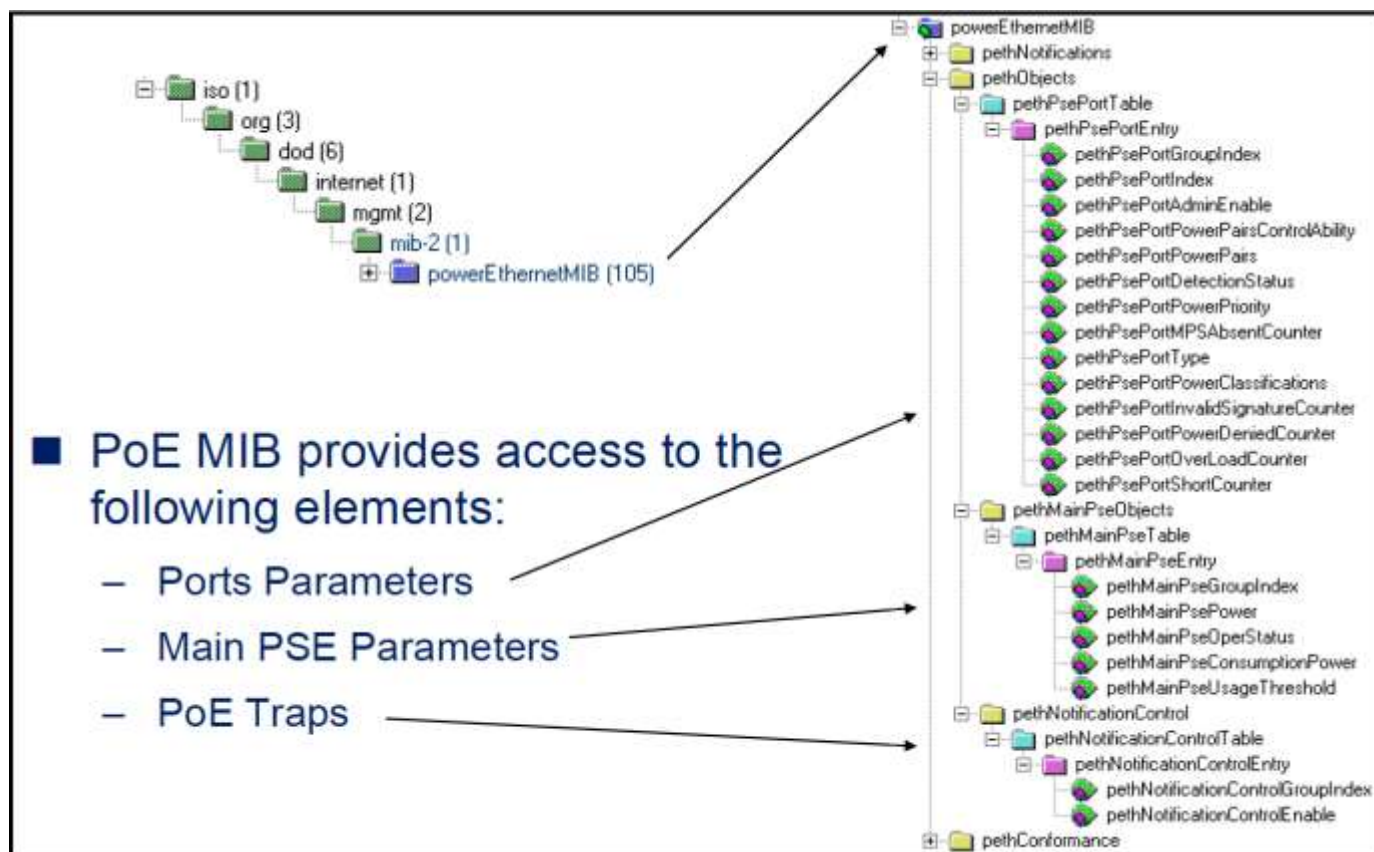

Figure 5-3: MIB Tree Structure
- RFC3621:** Power Over Ethernet (PoE) MIB which provides various management capabilities (see Figure 5-3)
RFC3621 PoE MIB is located under 1.3.6.1.2.1.105 SNMP MIB tree. The MIB is divided into three sections (see Figure 5-3). The first section deals with PoE ports and provides functionality such as enable/disable, read port status, class, etc. Each OID is accessed as a two-dimensional array table.